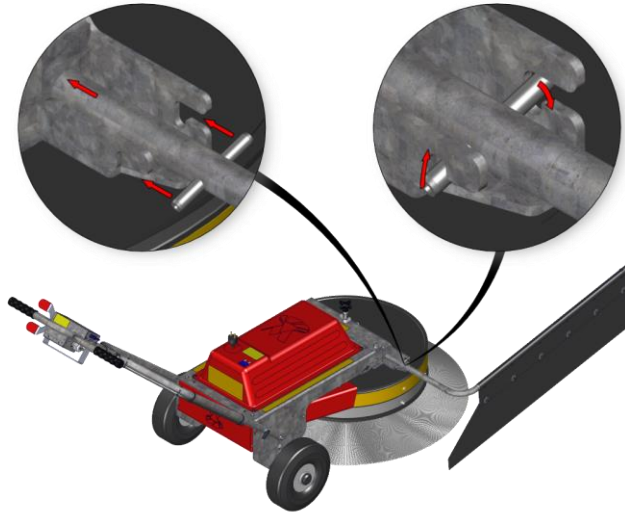

Fig. 65: Attachment of the WR 870 battery / battery PRO swath former
1. Insert the swath former into the machine's holder as described in Fig. 65.